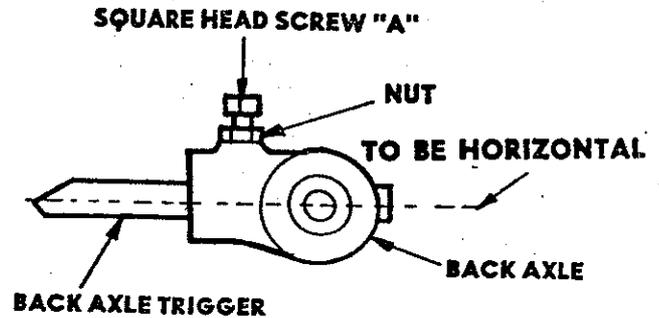

FIG.1
- (a) Check whether the back axle trigger is in nearly horizontal position (Fig 1). Mechanisms fitted with locally supplied sealed clock and requiring 15 seconds per game, require the trigger position to suit proper and secure action of payout lift. (The payout lift should not get stuck on payout lift release).